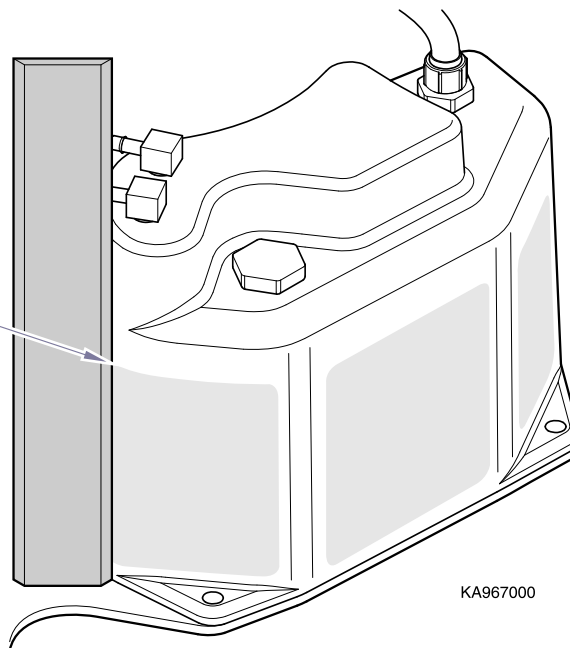

Figure 4-13. Hydraulic Fluid Level
- (5) Check condition of fluid level in reservoir (Fig. 4-13).
- (6) If necessary, remove reservoir cap and fill reservoir to 3 1/2" (8.9cm) from bottom of reservoir, then install cap